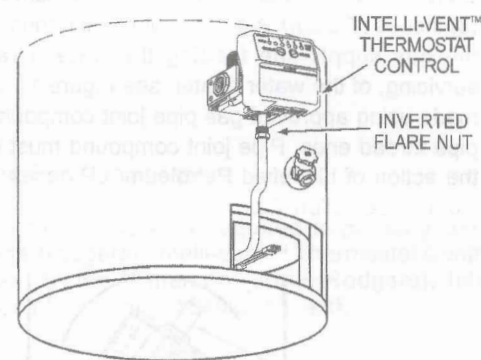

FIGURE 12.
a. If your water heater is equipped with a slotted burner support located towards the back of the inside of the combustion chamber, make certain that the flat end of the burner supply tube goes into the slotted opening of the burner support and the flared end goes into the inverted flare opening of the Intelli-vent™ Thermostat Control, (184960 Series), see Figure 12.
b. If your water heater is equipped with a U-shaped burner support located towards the front of the inside of the combustion chamber, make certain that the burner supply tube is positioned inside the U-shaped burner support and the flared end goes into the inverted flare opening of the Intelli-vent™ Thermostat Control, (184960 Series), see Figure 12.
16. Hand start threading the burner tube's inverted flare nut into the Intelli-vent™ Thermostat Control, (184960 Series). Use a 3/4 inch open-end wrench to tighten the nut, see Figure 12. DO NOT over tighten. DO NOT use joint compound or tape on the union connection.